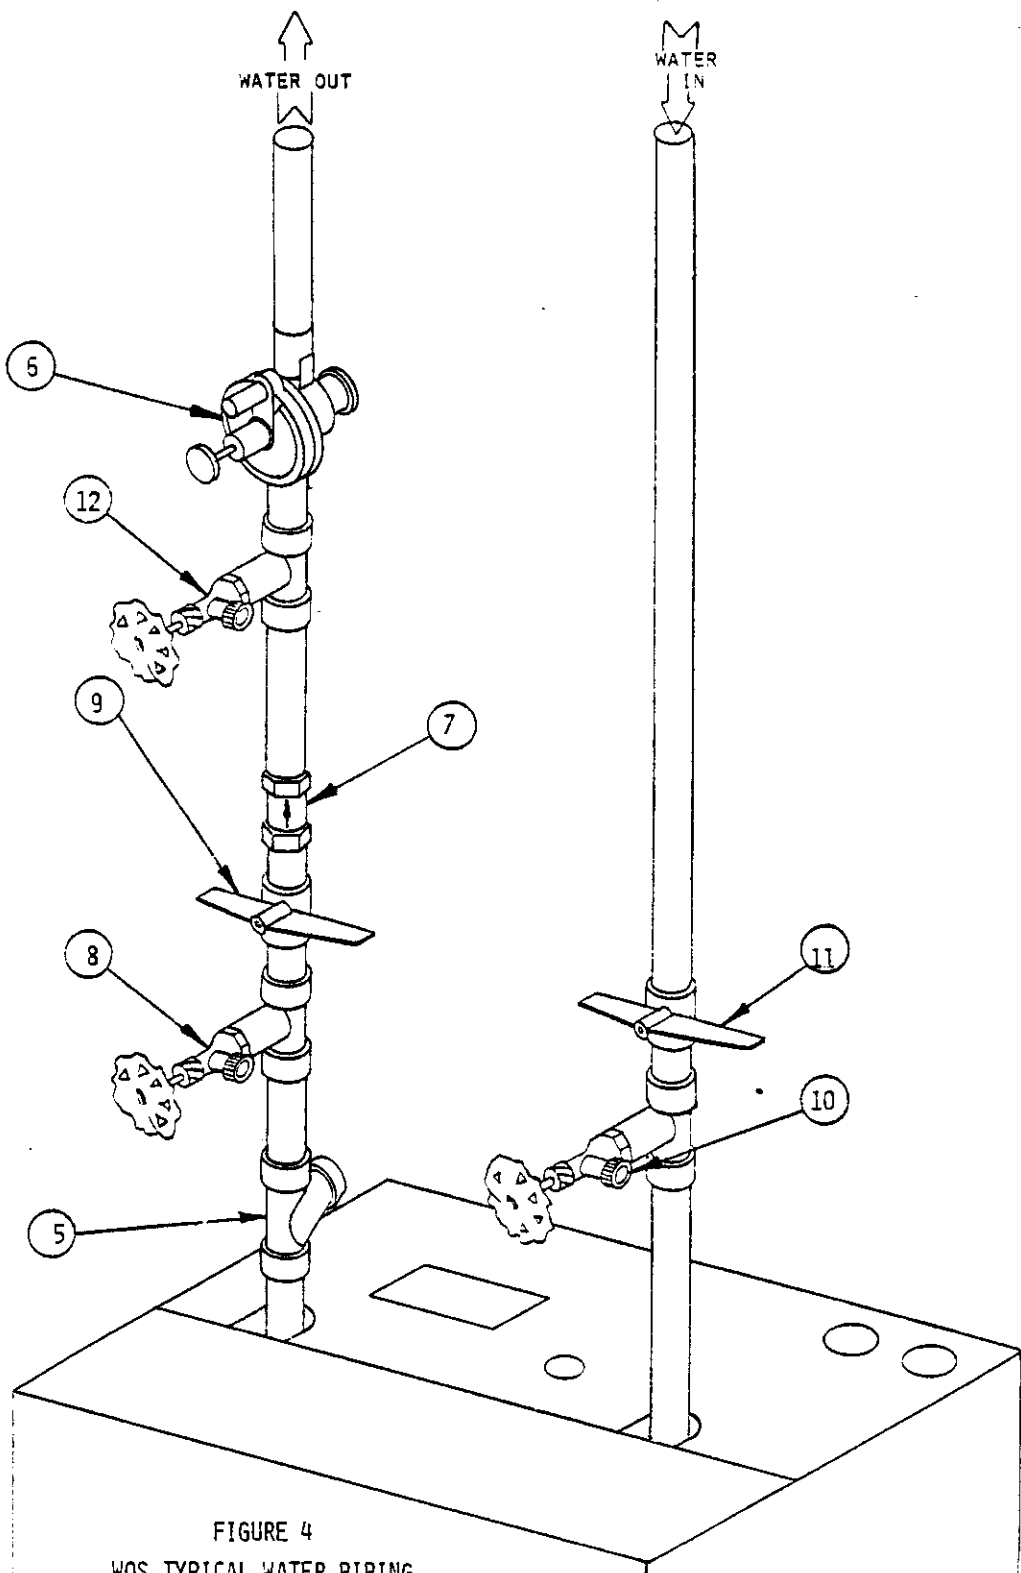

FIGURE 4
Refer to Piping, Figure 4. Slow closing Solenoid Valve (6) with a 24V coil provides on/off control of the water flow to the unit. Refer to the wiring diagram for correct hookup of the valve solenoid coil.
- a) Connect a water flow meter to the drain cock (12, Fig. 4) between the constant flow valve and the solenoid valve. Run a hose from the flow meter to a drain or sink. Open the drain cock.